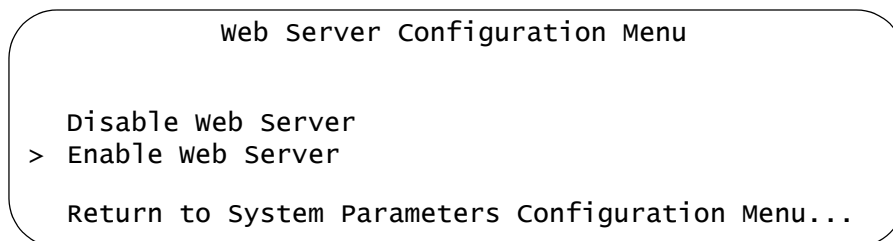

Figure 33. Web Server Configuration Menu
4. Select **Web Server Configuration** to display the menu in Figure 33.